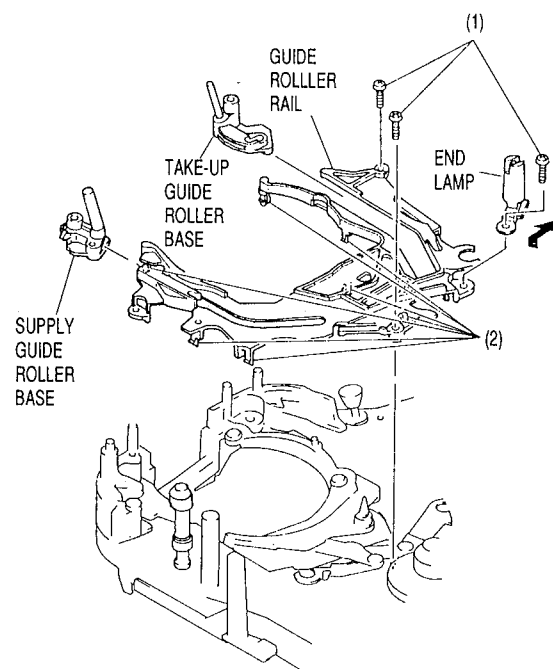

Fig. 3-22
- 1) Remove 3 screws (1) holding the guide roller rail. (See Fig. 3-22)
- 2) Release 7 tabs (2) and remove the guide roller rail together with the supply guide roller base, take-up guide roller base and end LED.